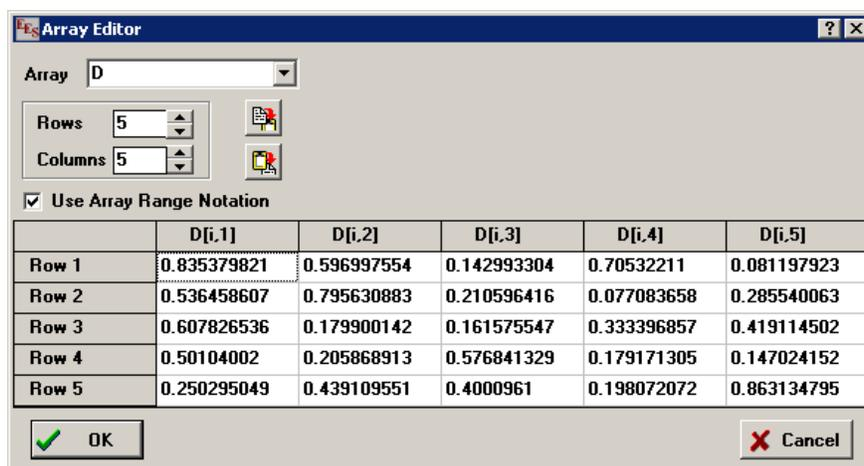

Figure 1-88: Arrays Editor.
Select Array Editor from the Edit menu. Name the array (D) and choose the right number of rows and columns (5 and 5). Copy the data from Excel and select the Paste button (  ) to place the data into the Arrays Editor, as shown in Figure 1-88.